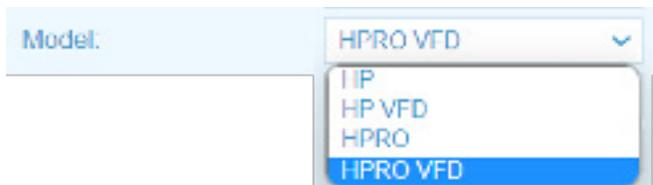

Figure 6: Dropdown to select desired pump model.
4. Use the model dropdown to select the desired pump model. (See Figure 6) It is recommended to Include the VFD. The VFD regulates the amount of electrical power the motor is receiving based on demand.